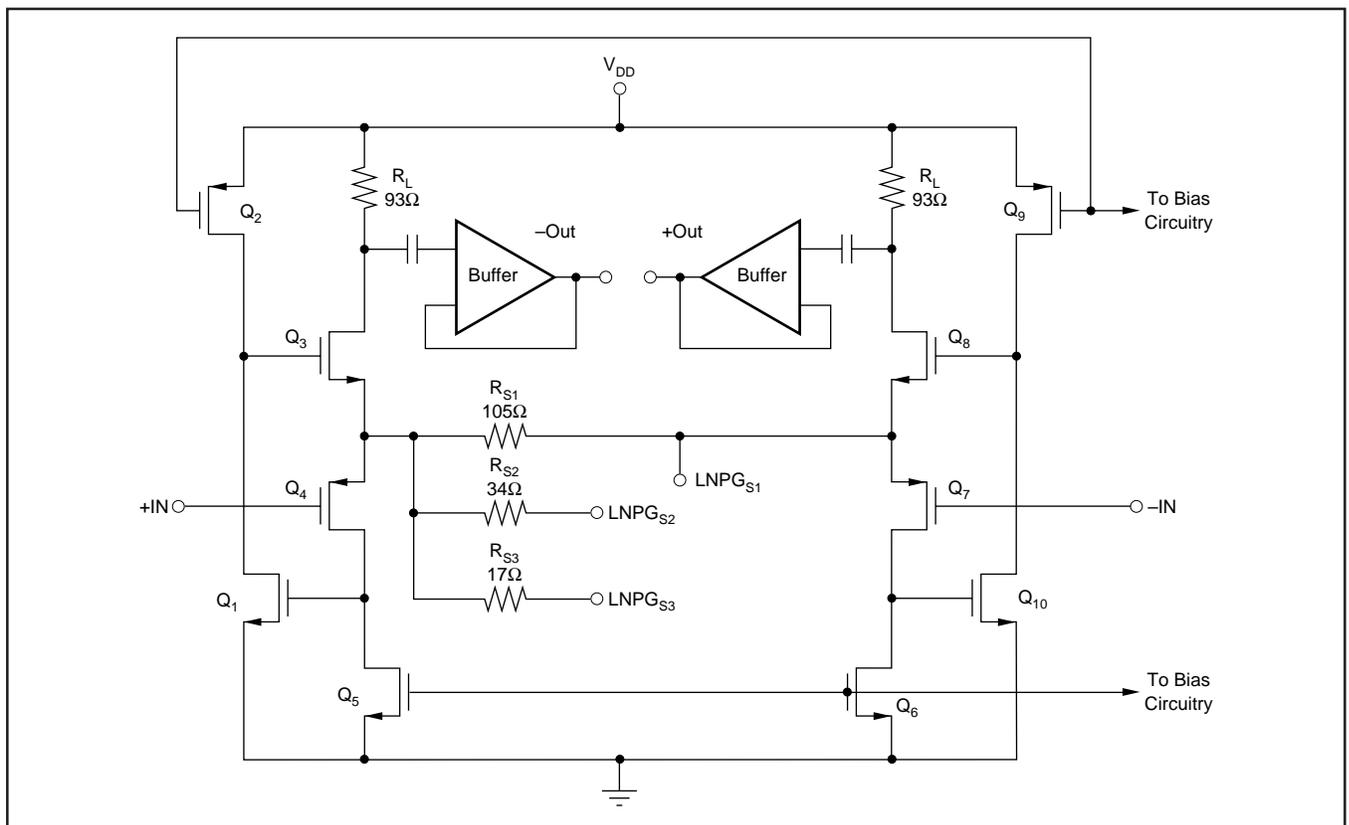

FIGURE 4. Schematic of the Low Noise Pre-Amplifier (LNP).
The LNP is designed to achieve a low noise figure, especially when employing active termination. Figure 4 is a simplified schematic of the LNP, illustrating the differential input and output capability. The input stage employs low resistance local feedback to achieve stable low noise, low distortion performance with very high input impedance. Normally, low noise circuits exhibit high power consumption due to the large bias currents required in both input and output stages. The LNP uses a patented technique that combines the input and output stages such that they share the same bias current. Transistors Q4 and Q5 amplify the signal at the gate-source input of Q4, the +IN side of the LNP. The signal is further amplified by the Q1 and Q2 stage, and then by the final Q3 and R_L gain stage, which uses the same bias current as the input devices Q4 and Q5. Devices Q6 through Q10 play the same role for signals on the -IN side.
It is also possible to create other gain settings by connecting an external resistor between $LNP_{G_{S1}}$ on one side, and $LNP_{G_{S2}}$ and/or $LNP_{G_{S3}}$ on the other. In that case, the internal resistor values shown in Figure 4 should be combined with the external resistor to calculate the effective value of R_S for use in Equation (1). The resulting expression for external resistor value is given in Equation (2).
where R_{EXT} is the externally selected resistor value needed to achieve the desired gain setting, R_{S1} is the fixed parallel resistor in Figure 4, and R_{FIX} is the effective fixed value of the remaining internal resistors: R_{S2} , R_{S3} or $(R_{S2} \parallel R_{S3})$ depending on the pin connections.
For greatest flexibility and lowest noise, the user may wish to shape the frequency response of the LNP. The COMP1 and COMP2 pins for each channel (pins 10 and 11 for channel A, pins 26 and 27 for channel B) correspond to the drains of Q3 and Q8 in Figure 4. A capacitor placed between these pins will create a single-pole low pass response, in which the effective “R” of the “RC” time constant is approximately 186Ω.